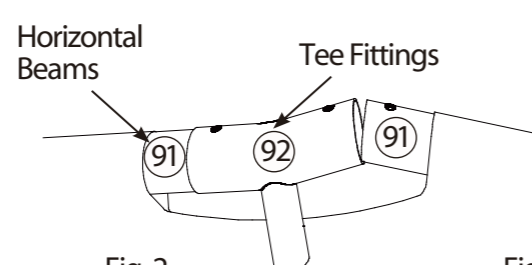
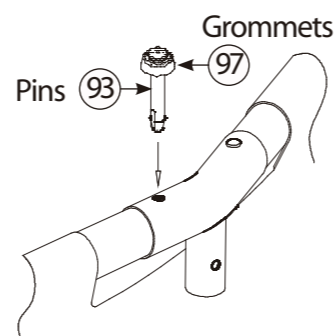

Fig. 2
Fig. 3
- (g) When you get to the last connection, install the last tee fitting on the end of one of the beams. Lift up on both of the last two beams in order to get them to insert into the tee fitting. Angle them towards each other and guide the beam into the fitting as you lower them both down together. See Fig. 2. This step may require two people. Now, begin inserting the pins (93) down through the top of the tee fittings until the pin snaps into place on the lower side of the fitting as shown in Fig. 3.